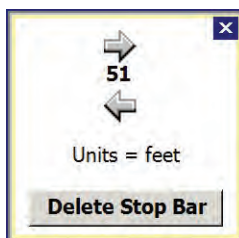

Figure 7.16 – Deleting a Stop Bar
- 2 Click on the **Delete Stop Bar** option of the Delete Stop Bar window (see Figure 7.16).